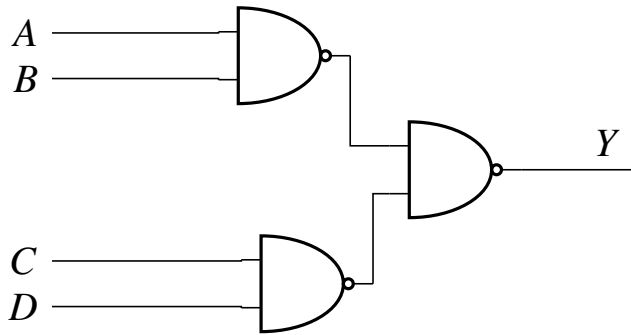

Fig. 3.37
55. In the logic circuit shown in Fig. 3.37,  $y$  is given by (GATE-EE 2018,14)